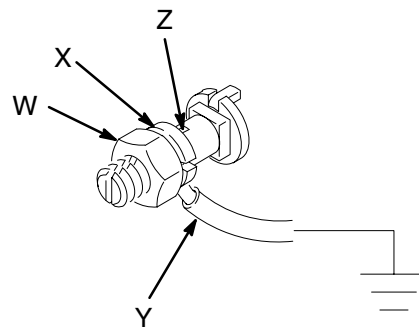

Fig. 2
2. *Displacement pump and reciprocator drive section:* Use a ground wire and clamp, as shown in Fig. 2. The power supply's ground wire to the electric motor **does not** provide grounding for the pump and drive section.
Loosen the grounding lug locknut (W) and washer (X). Insert one end of a 1.5 mm2 (12 ga) minimum ground wire (Y) into the slot in lug (Z) and tighten the locknut securely. See Fig. 2. Connect the other end of the wire to a true earth ground. Order Part No. 237569 Ground Wire and Clamp.